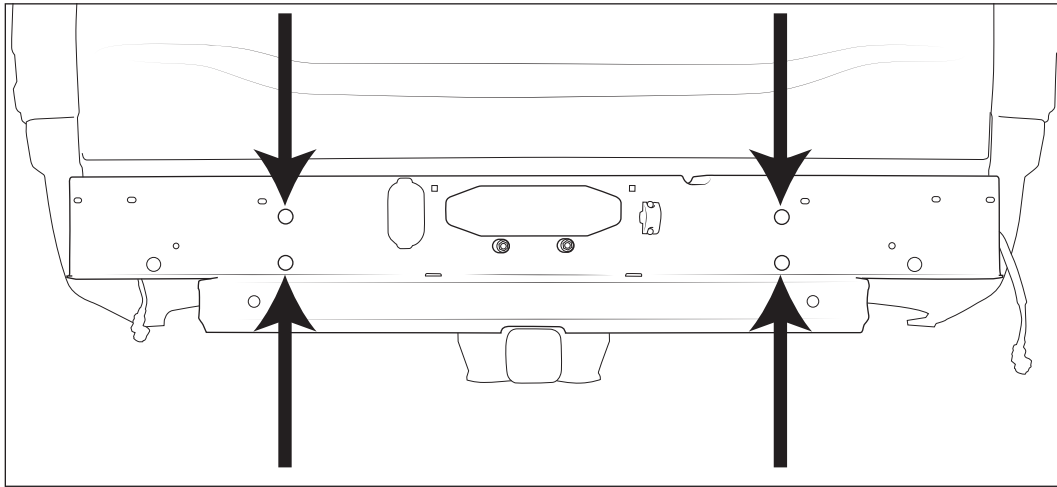

Figure 28
3. Align the four holes on the outside face of the center section with frame brackets, loosely install supplied M8x25 bolts and washers (fig. 28). NOTE: It is helpful to loosen the six mounting bolts on the factory hitch assembly to allow for additional adjustment of the center section mounting points.